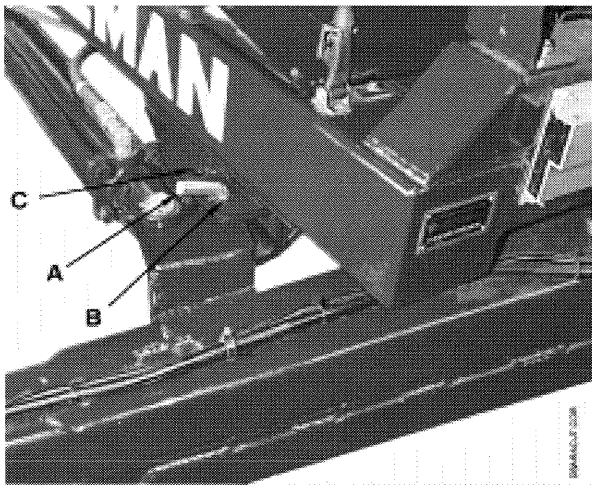

Fig. 1
A. The baler's adjustable pivoting drawbar has two positions. Transport position (as shown) *Fig. 1*, and the adjustable baling position. When transporting the baler on public roads, highways or areas of narrow access the drawbar should be in the transport position, with the drawbar latch pin "A" *Fig. 1*, installed in the transport position "B" *Fig. 1*. Once the baler is in the hay field, the drawbar latch pin should be removed and installed in the storage position "C" *Fig. 1*. The drawbar is then adjustable using the DRAWBAR switch "A" *Fig. 2*, located on either the remote or baler mounted control boxes. See **Baler Controls**.